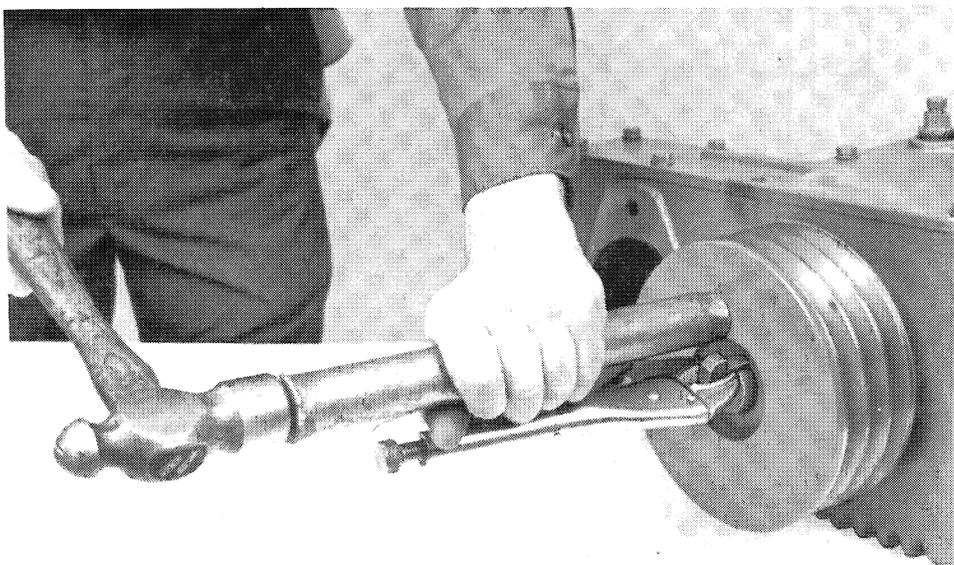

FIGURE 7
1. Lock vise grips on the gib key (2) and against the end of the shaft (11) as shown in Figure 7. Support the shaft on the opposite end and then drive the sheave (3) in with a suitable drift and hammer.